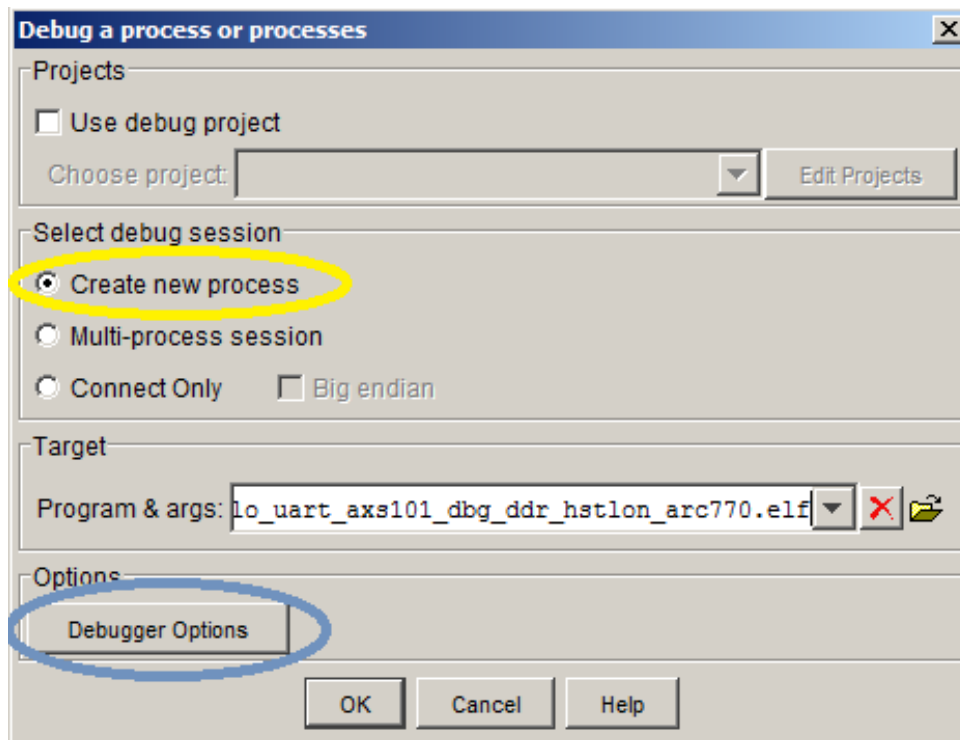

Figure 56 Creating a new process
4. Select **Create new process** (yellow ellipse) and open **Debugger options** (blue ellipse) as shown in Figure 56: